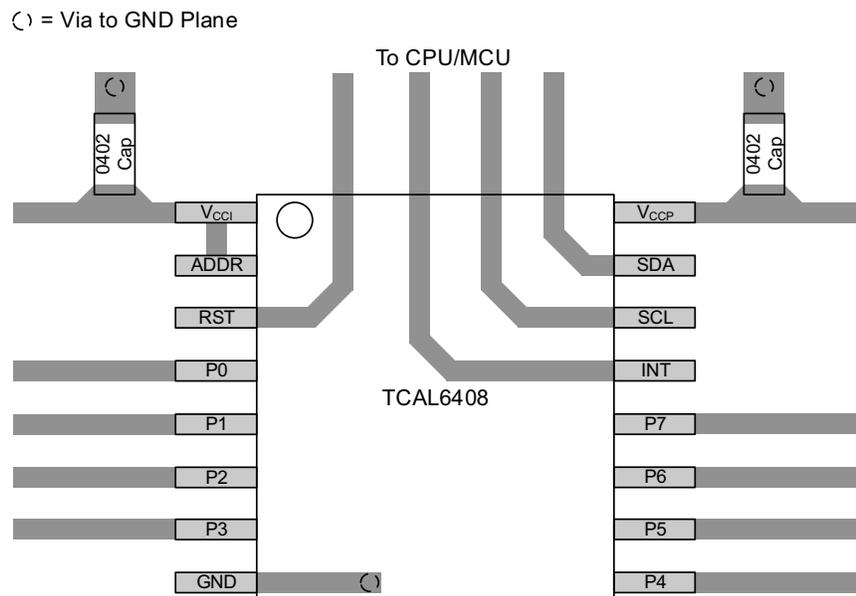

Figure 8-10. TCAL6408 Layout
In all PCB layouts, it is a best practice to avoid right angles in signal traces, to fan out signal traces away from each other upon leaving the vicinity of an integrated circuit (IC), and to use thicker trace widths to carry higher amounts of current that commonly pass through power and ground traces. By-pass and decoupling capacitors are commonly used to control the voltage on the supply pins, using a larger capacitor to provide additional power in the event of a short power supply glitch and a smaller capacitor to filter out high-frequency ripple. These capacitors should be placed as close to the TCAL6408 as possible. These best practices are shown in Figure 8-10.
For the layout example provided in Figure 8-10, it is possible to fabricate a PCB with only 2 layers by using the top layer for signal routing and the bottom layer as a split plane for power and ground (GND). However, a 4 layer board is preferable for boards with higher density signal routing. On a 4 layer PCB, it is common to route signals on the top and bottom layer, dedicate one internal layer to a ground plane, and dedicate the other internal layer to a power plane. In a board layout using planes or split planes for power and ground, vias are placed directly next to the surface mount component pad which needs to attach to power or GND and the via is connected electrically to the internal layer or the other side of the board. Vias are also used when a signal trace needs to be routed to the opposite side of the board, but this technique is not demonstrated in Figure 8-10.